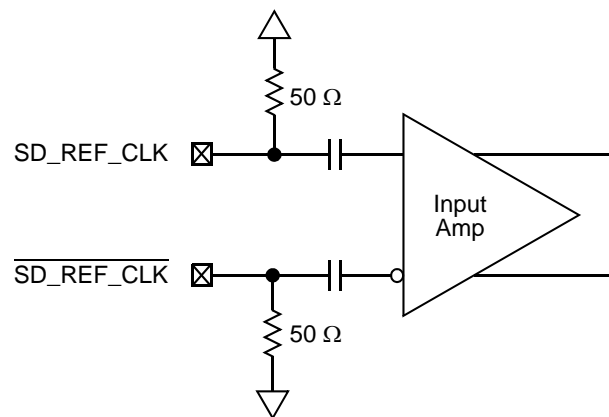

Figure 39. Receiver of SerDes Reference Clocks
- In general, the clock reference symbol representation for this section is based on the symbols RGT to represent RGMII and RTBI timing. For example, the subscript of t_{RGT} represents the TBI (T) receive (RX) clock. Note also that the notation for rise (R) and fall (F) times follows the clock symbol that is being represented. For symbols representing skews, the subscript is skew (SK) followed by the clock that is being skewed (RGT).
- The SD_REF_CLK and $\overline{\text{SD_REF_CLK}}$ are internally AC-coupled differential inputs as shown in Figure 39. Each differential clock input (SD_REF_CLK or $\overline{\text{SD_REF_CLK}}$) has a 50- Ω termination to SGND_SRDSn (xcorevss) followed by on-chip AC-coupling.